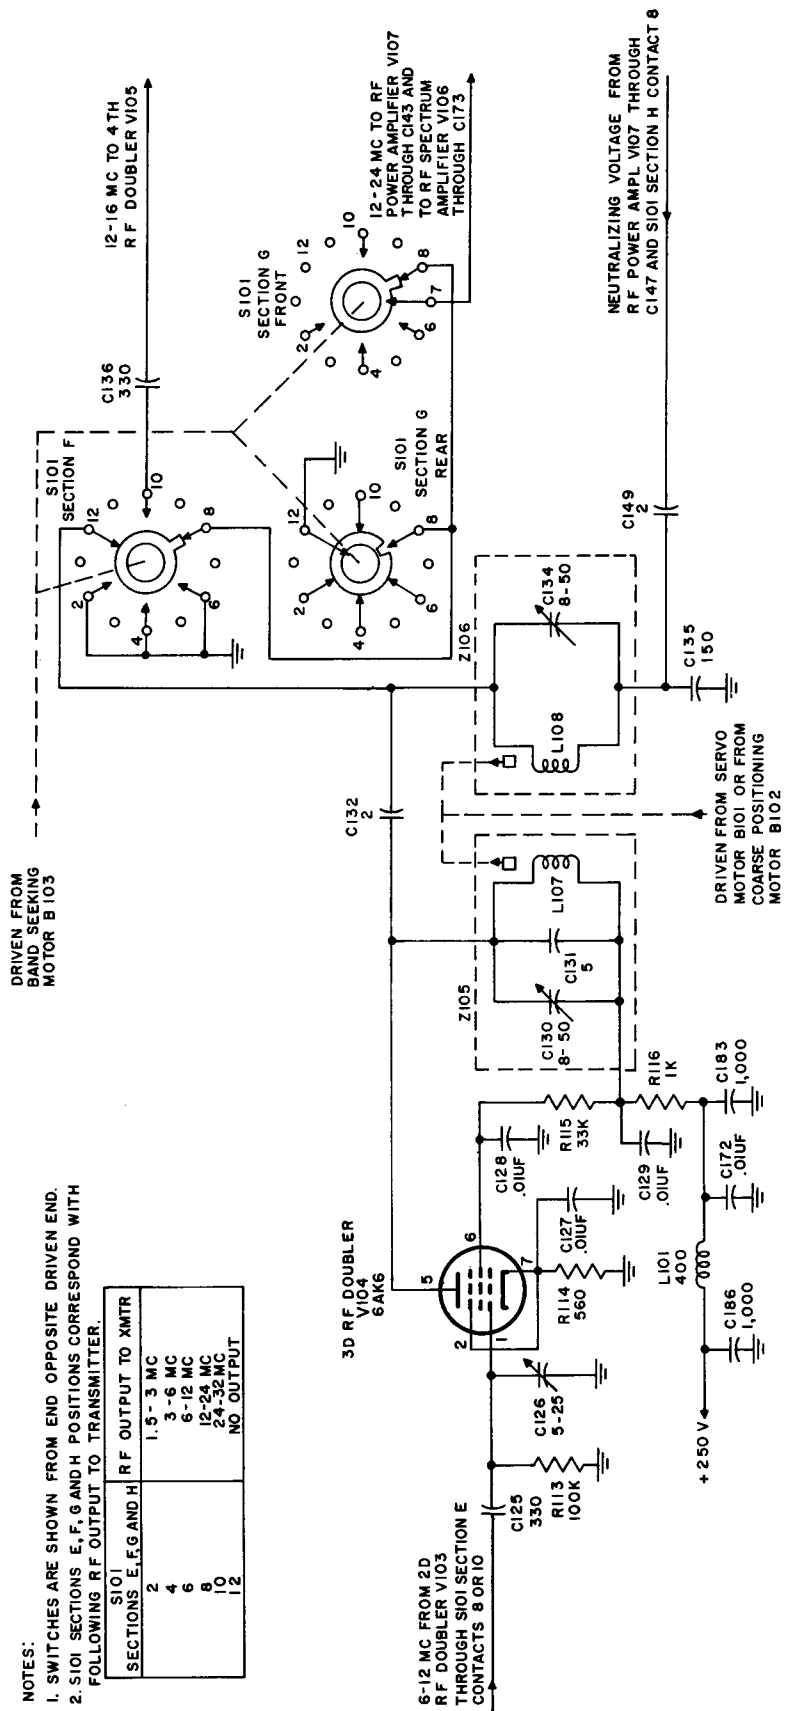

Figure 47. Third rf doubler, simplified schematic diagram.
80. Third Rf Doubler V104 (fig. 47)